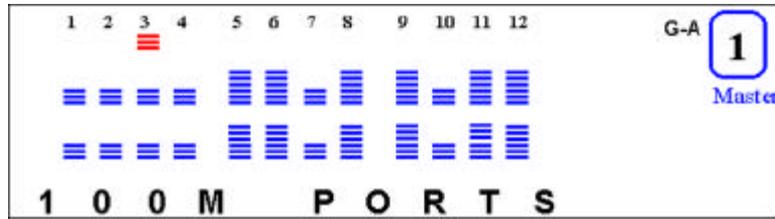

Figure 4.15 100M Ports
- 4) Press **<Next>** to view the status of other ports. 100M ports status is displayed. In Figure 4.15, ports 17, 18, 20, 21, 22, 24, 5, 6, 8, 9, 11 & 12 are indicated as 100M ports.